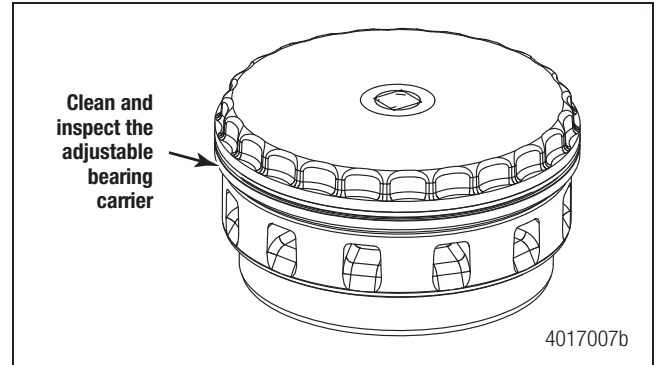
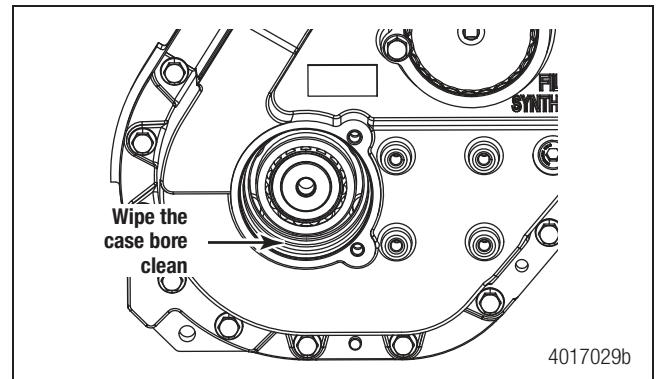

Figure 11.7
Figure 11.8
9. With a clean cloth, clean and inspect the case bore and adjustable bearing carrier for any damage from corrosion or debris. Figure 11.7 and Figure 11.8.